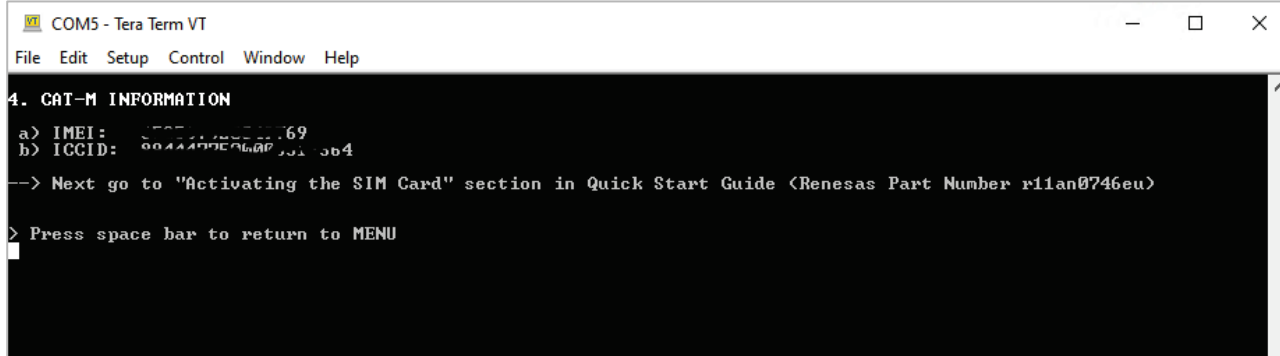

Figure 8. CAT-M Information
7. Select **Activate SIMS** to Activate your individual SIM by **ICCID** and **PUK** found on the SIM Card packaging. Note: The **ICCID** value can also be obtained from the **Running the RYZ014A PMOD example project** section. See the **ICCID** value in **Figure 8. CAT-M Information**. Fill other fields as needed.